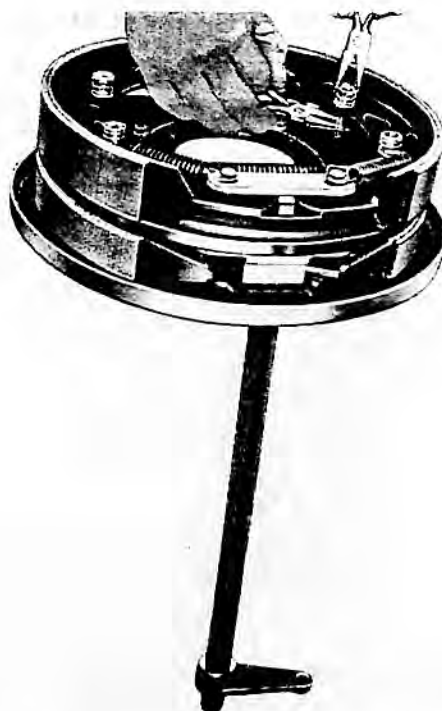
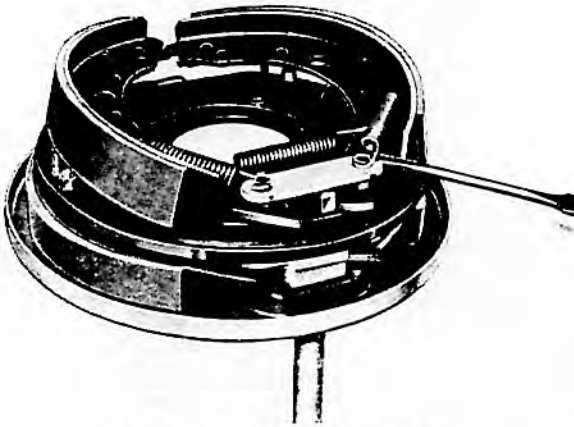

FIGURE 54 REMOVING HOLD DOWN SPRINGS
FIGURE 55 REMOVING SPRING
8. Remove the shoe hold down spring (24) by gripping each pin in turn with pliers (Fig. 54) and pressing and turning the dished washer (23) until it springs off. Remove the washers and springs. The pin will fall away far enough to proceed with the removal of the shoes.
9. Force apart the shoes at the adjuster end to allow the adjuster (27) to drop out of position, and the adjacent spring (28) can then be unhooked.
10. The removal of the adjuster also relaxes the two heavy springs (26) at the cam end, and they can be removed by levering with a screwdriver (Fig. 55) between the spring and the bridge piece.
11. Remove footbrake shoes (25), anchor pin plate (22), spacer washers (30) and withdraw the operating shaft (18).
13. Turn the brake over and remove the five nuts (40) securing dirt excluder (5) to torque plate and remove dirt excluder.
14. Reverse brake and remove the three nuts (19) securing cable guide to torque plate.